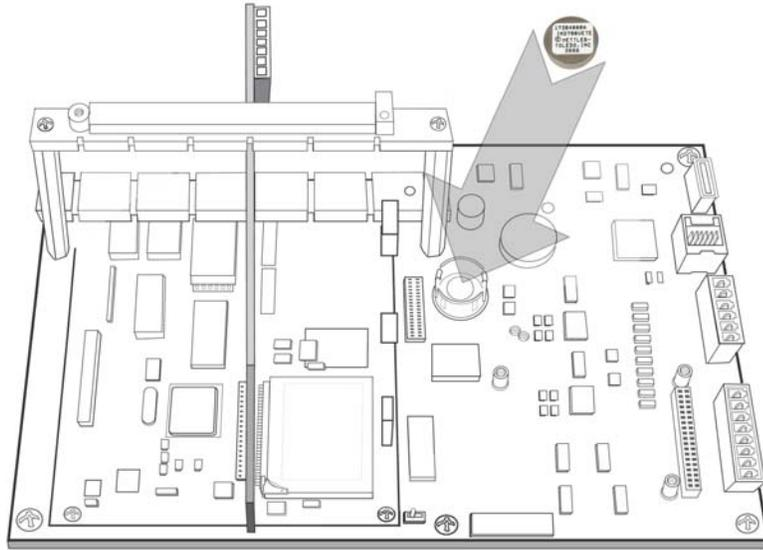

Figure 3-1: Hardware Key Socket
3. Identify the hardware key socket, adjacent to the Main PCB backup battery. The socket is indicated in Figure 3-1.